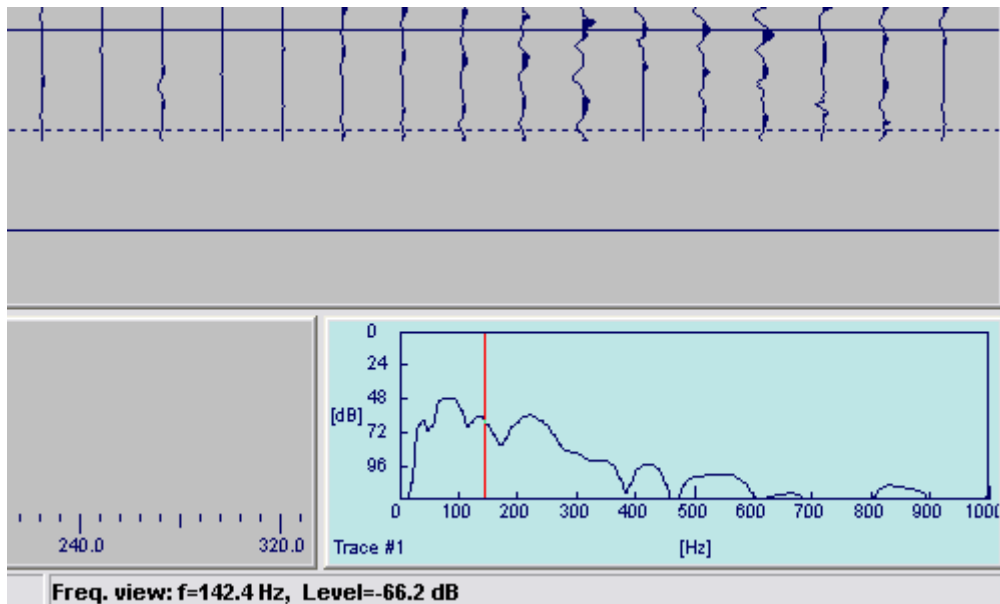

Figure 25 The Frequency View with the frequency line
- Moving a frequency line across the view (Figure 25)